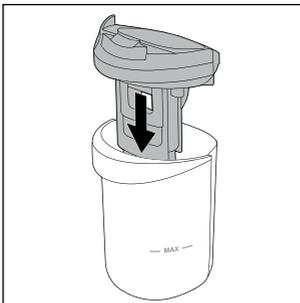

Fig. 29
- ◆ Place the lid of the waste water tank **9** back onto the waste water tank **2** (see fig. 29).